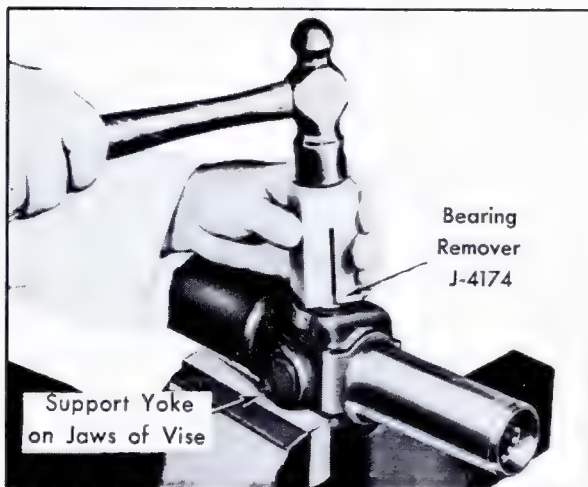

Fig. 4-22 Installing Bearing Remover Tool
4. Support yoke or bearing trunnion on vise jaws, position Bearing Remover, J-4174, over end of bearing cup, and pound on remover tool with a hammer until bearing is driven out of yoke and into remover tool about 1/2 inch, Fig. 4-22.